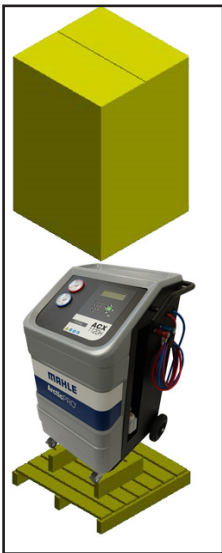

Fig. 9: Removing carton
1. Cut the straps and remove carton (Fig 9).